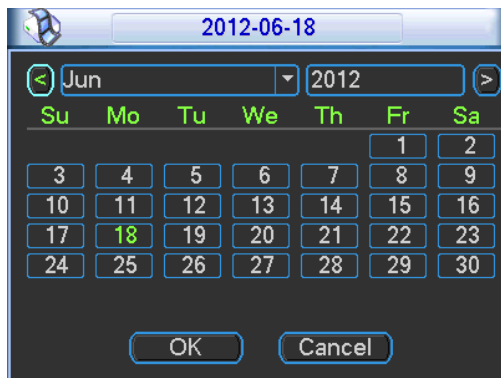

Figure 4-15
- Record types: There are four types: regular, motion detection (MD), Alarm, MD & alarm.
- Holiday setting: Click it you can see an interface shown as in Figure 4-15. Here you can set holiday date. Check the box, it means current channel shall record as your holiday setup. Please go to the Period interface to set the holiday date record setup.